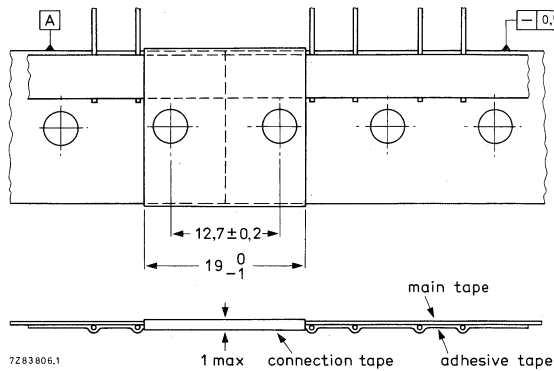

Fig. 5 Connection of tapes.
- (1) Capacitors with silver electrodes suffer from the "silver migration" effect. Silver particles move from one electrode to the other under the influence of a d.c. voltage and moisture. Capacitors with silver electrodes are considerably larger.
- (2) For suffix see Tables 3 to 11.
- (3) Capacitors are according to Fig. 1 except for the lead length. Fig. 5 is found under "Packing".
- (4) The longest axis of the possible ellipsis has a minimum length of 1,4 mm.